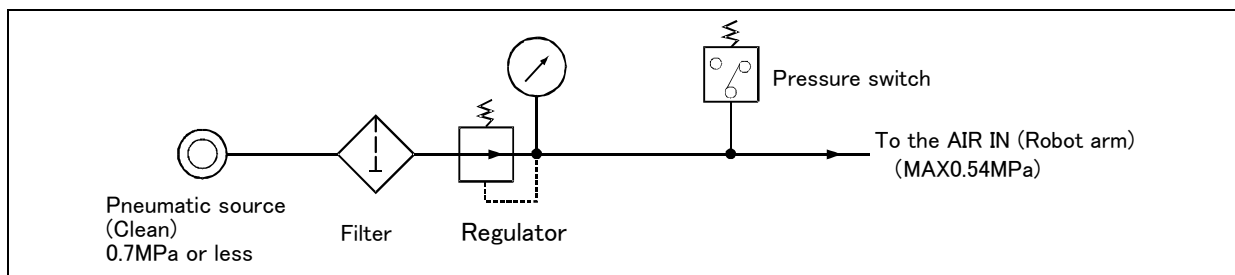
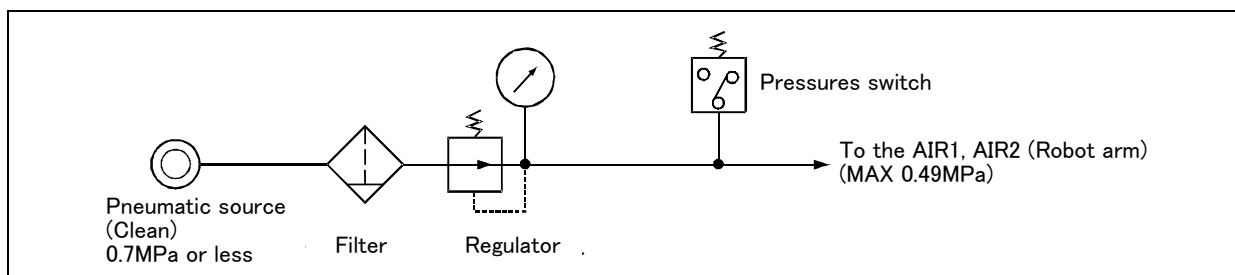

Fig.2-43 : Air supply circuit example for the hand (RV-4F/7F/13F series)
Fig.2-44 : Air supply circuit example for the hand (RV-35F/50F/70F series)
- (1) Make sure that a surge voltage protection circuit such as a diode is connected to the solenoid coil in parallel.
- (2) When the factory pneumatic pressure drops, as a result of the hand clamp strength weakening, there can be damage to the work. To prevent it, install a pressure switch to the source of the air as shown in Fig. 2-43 (RV-4F/7F/13F series), Fig. 2-44 (RV-35F/50F/70F series) and use the circuit described so that the robot stops when pressure drops. Use a hand with a spring-pressure clamp, or a mechanical lock-type hand, that can be used in cases where the pressure switch becomes damaged.
- (3) The optional hand and solenoid valve are of an oilless type. If they are used, don't use any lubricator.
- (4) Supply clean air to the vacuum generation valve when you use RV-4F/7F/13F series clean type robot.
- (5) If the air supply temperature (primary piping) used for the tool etc. is lower than ambient air temperature, the dew condensation may occur on the coupling or the hose surface.